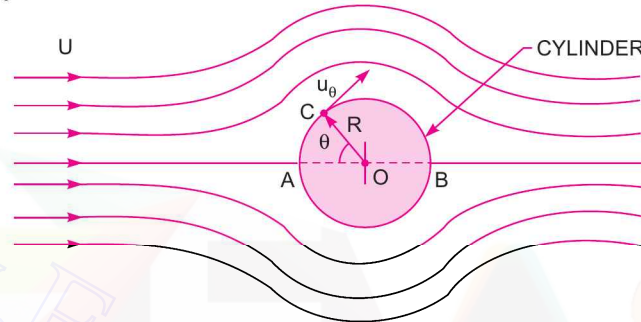
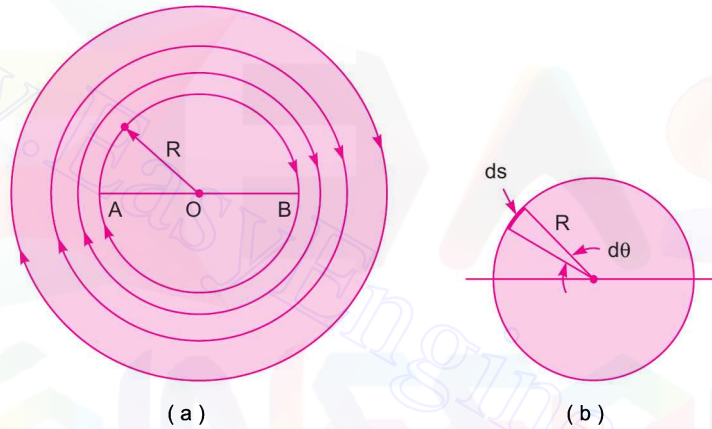
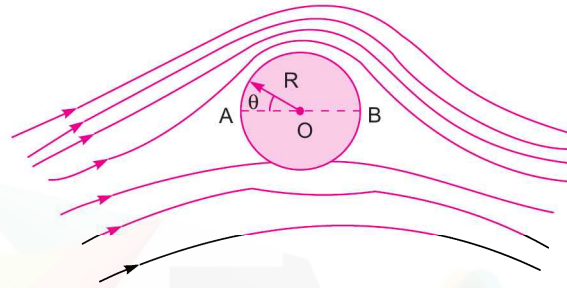

Fig. 14.9 Flow of ideal fluid over stationary cylinder.
Fig. 14.11 Stream-lines for free vortex.
Fig. 14.12 Flow pattern over a rotating cylinder.
**14.7.1 Flow of Ideal Fluid over Stationary Cylinder.** Consider the flow of an ideal fluid over a cylinder, which is stationary as shown in Fig. 14.9.
The flow-pattern for a free-vortex flow consists of streamlines which are series of concentric circles as shown in Fig. 14.11 (a).
In case of free-vortex flow, the stream velocity at any point on a circle of radius  $R$  is equal to the tangential velocity at that point. This means that angle between the stream-lines and tangent on the stream is zero. Also from Fig. 14.11 (b), the length of the element ' $ds$ ' is given as  $ds = R d\theta$
**Flow over Cylinder due to Constant Circulation.** The flow pattern over a cylinder to which a constant circulation ( $\Gamma$ ) is imparted is obtained by combining the flow patterns shown in Figs. 14.9 and Fig. 14.11 (a). The resultant flow pattern is shown in Fig. 14.12. The velocity at any point on the surface of the cylinder is obtained by adding equations (14.12) and (14.14) as
**14.7.3 Expression for Lift Force Acting on Rotating Cylinder.** Let a cylinder is rotating in a uniform flow field. The resultant flow pattern will be as shown in Fig. 14.12. Consider a small length of the element on the surface of the cylinder.
**14.7.4 Drag Force Acting on a Rotating Cylinder.** The resultant flow pattern for a rotating cylinder in a uniform flow field is shown in Fig. 14.12. The resultant flow pattern is symmetrical about the vertical axis of the cylinder. Hence the velocity distribution and also pressure distribution is symmetrical about the vertical axis and as such there will be no drag on the cylinder.
Stagnation points are those points on the surface of the cylinder, where velocity is zero. For a rotating cylinder as shown in Fig. 14.12, the resultant velocity is given by equation (14.15) as